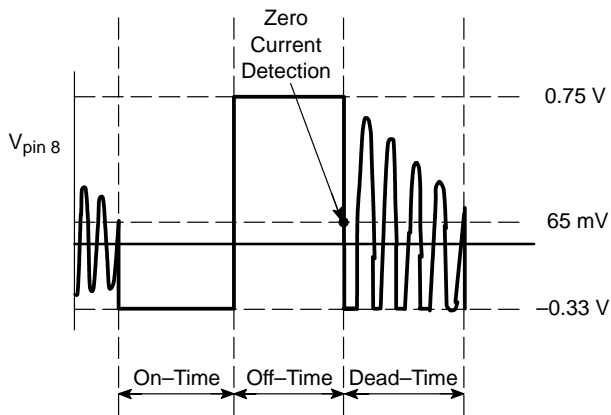
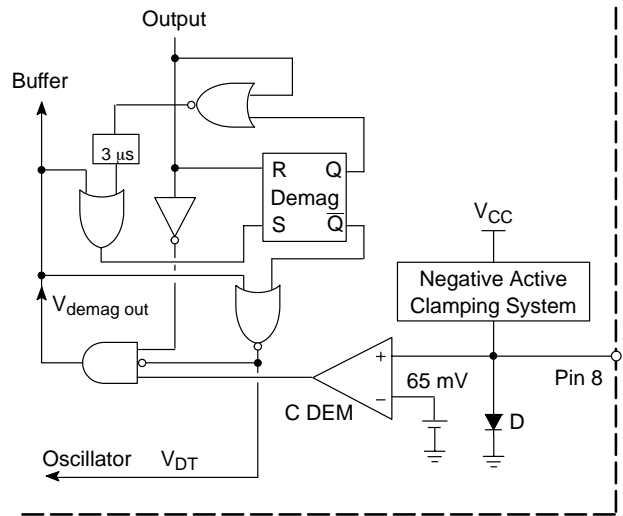

Figure 7. Demagnetization Detection
Figure 8. Demagnetization Block
- equal to zero for the dead-time with generally a ringing (refer to Figure 7).
A latch system is incorporated to keep the demagnetization block output level low as soon as a voltage lower than 65 mV is detected and as long as a new restart is produced (high level on the output (refer to Figure 8)). This process avoids that any ringing on the signal used on the pin 8, disrupts the demagnetization detection (refer to Figure 7). Finally, this method results in a very accurate demagnetization phase detection, and the signal V_{DT} drawn from this block is high only for the dead-time. Therefore, an oscillator re-start and so, a new power switch conduction is only allowed during the dead-time.
The demagnetization detection can be inhibited by connecting pin 8 to the ground but in this case, a timer (about 3 μ s) that is incorporated to set the latch when it can not be set by $V_{demagout}$, results in a minimum off-time (refer to Figure 8).